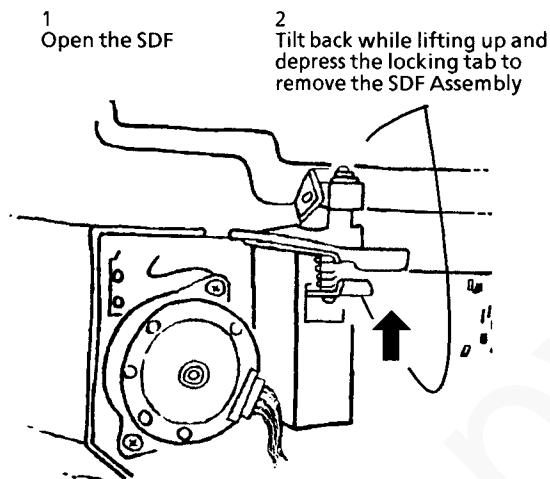

Figure 2. Removing the SDF Assembly
4. Remove the SDF Assembly (Figure 2).